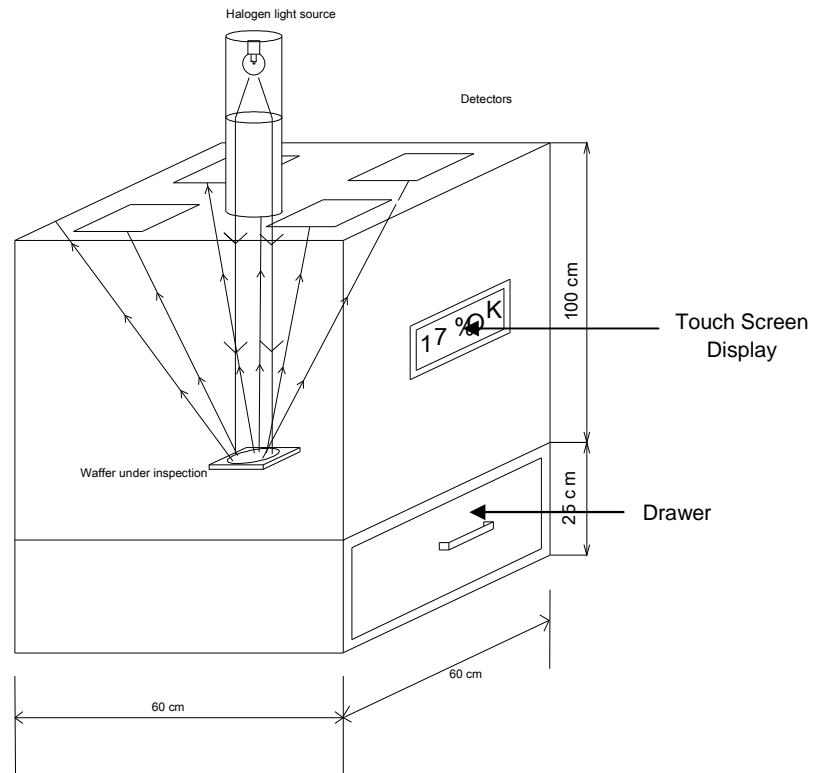

Fig 1. Sketch of diffused reflectance setup (not to scale)
1. The sketch of the enclosure is shown in Fig 1.
6. Drawer (as shown in fig 1) will be opened manually and "Drawer is open" should be displayed on screen.